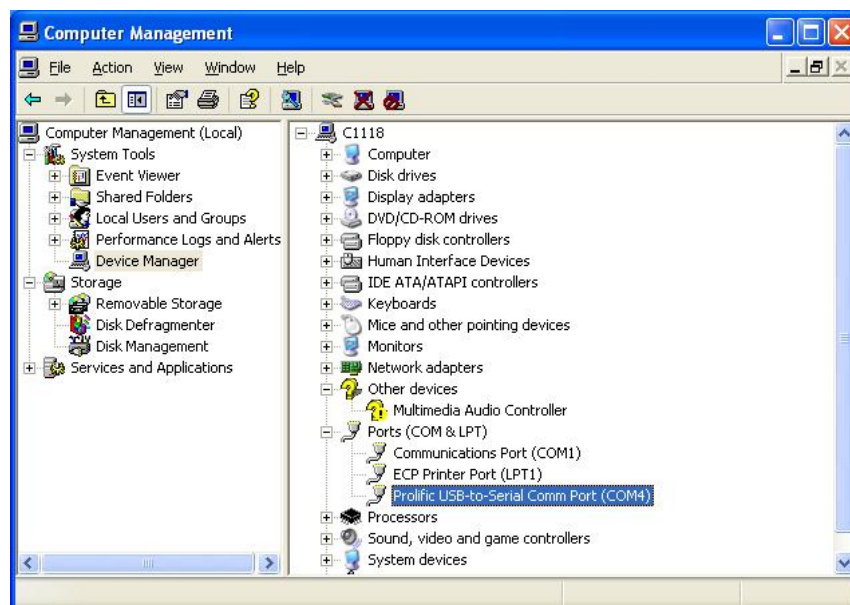

Figure 2
1.2 After the installation is completed, plug the upgrade cable into the computer's USB connector, and then check the device manager as in figure 2: